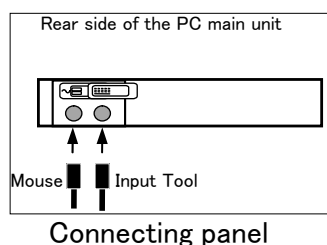
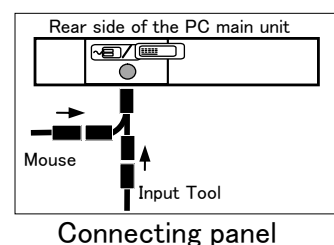

Fig. 1-2
Fig. 1-3
- As shown in Fig 1-3, when connecting the 10-key board, use a general one.
It shows Fig.1-1, Fig.1-2, Fig.1-3 in 1.1.1.
at (A) and (B) (Fig. 1-2).